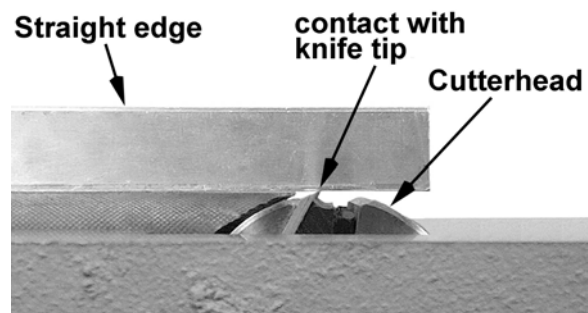

Figure 26
6. Raise or lower the *outfeed table* until the *straight edge* contacts the *knife tip*, as shown in Figure 26. Using the drive belt or pulley, rock the cutterhead slightly to make sure the apex of the knife is just barely contacting the *straight edge*.